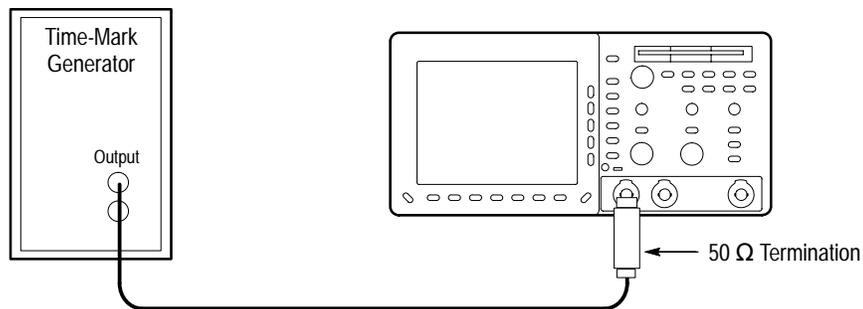

Figure B-5: Hookup for sample rate check
1. Connect, through a 50  $\Omega$  precision coaxial cable and a 50  $\Omega$  termination, the time-mark output of a time-marker generator to **CH 1**, as shown in Figure B-5. Set the output of the generator for 10 ms markers.